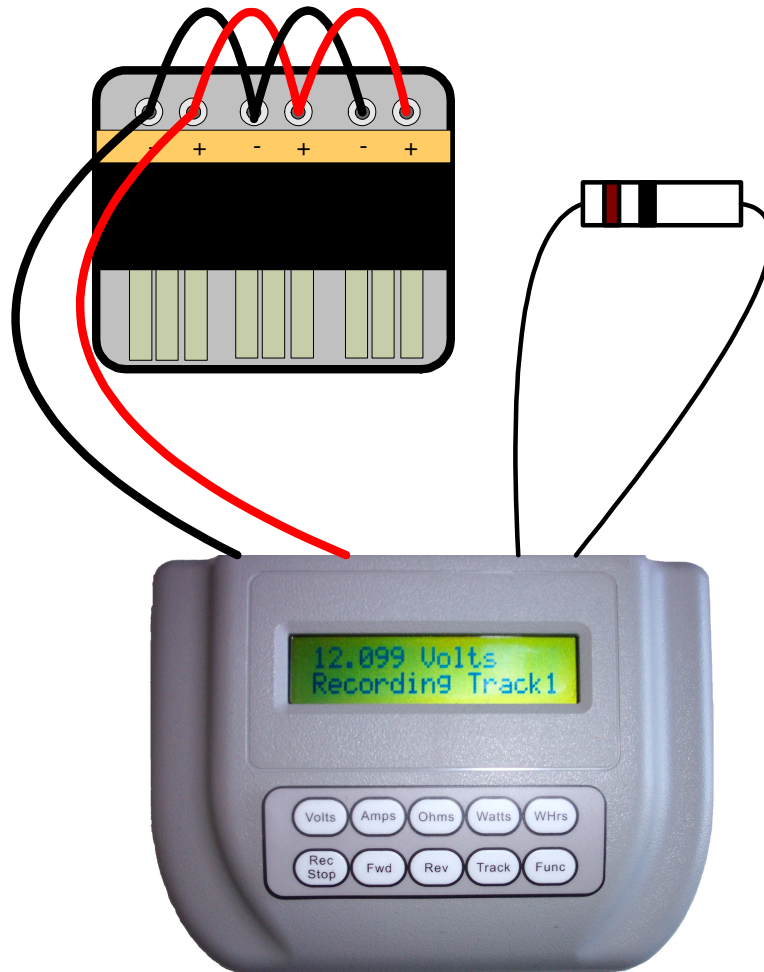

Figure 1 – Initial Equipment Setup
1. Setup the equipment as shown in Figure 1 below. Wire the opposite side of the solar panel so that all three modules are in parallel in order to produce maximum current. You can use clip leads or the wires with looped ends to hookup the modules as shown in Figure 1. Then attach a clip lead from the left-most negative (-) post to the Black Input terminal on the **Smart Meter – Data Logger™** and another clip lead from the left-most positive (+) post to the Red Input terminal on the **Smart Meter – Data Logger™**.